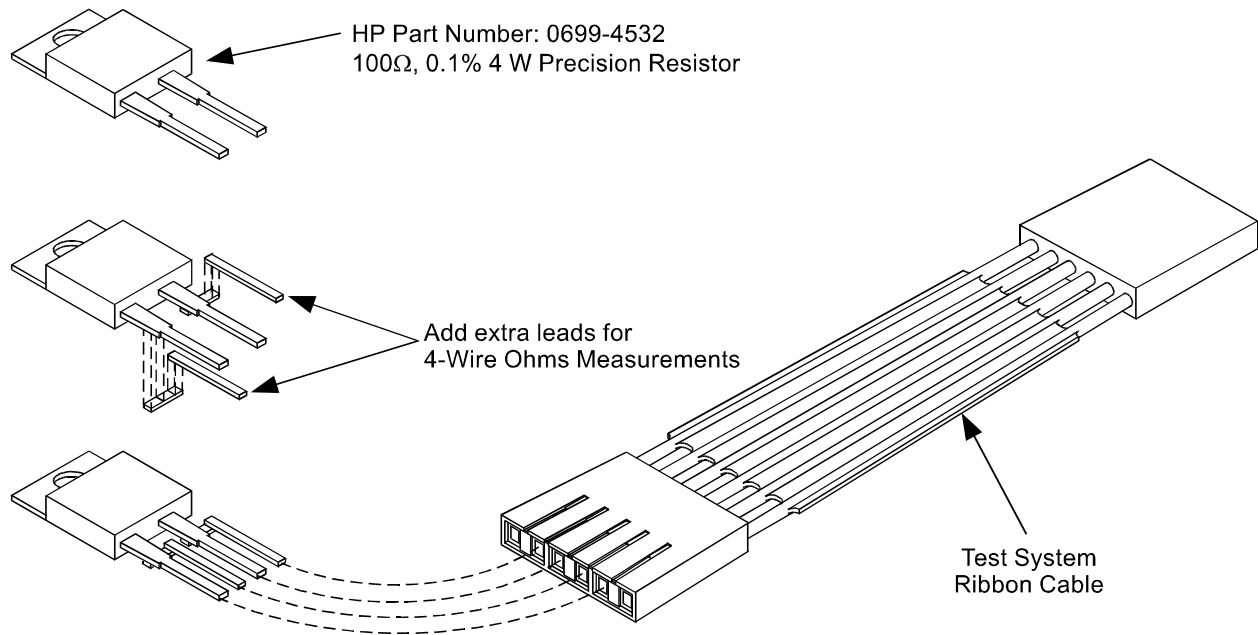

Figure 6-1. Agilent E6171A Calibration Fixture
1. Agilent E6171A modules require the simple calibration fixture shown in Figure 6-1. Build the test fixture by adding leads to an Agilent 0699-4532 resistor as shown. The resistor is a 100 Ω , 0.1% tolerance, 4 Watt, low temperature coefficient precision resistor. Adding the extra leads allows for 4-Wire Ohms resistance measurements. Keep all lead lengths as short as possible.